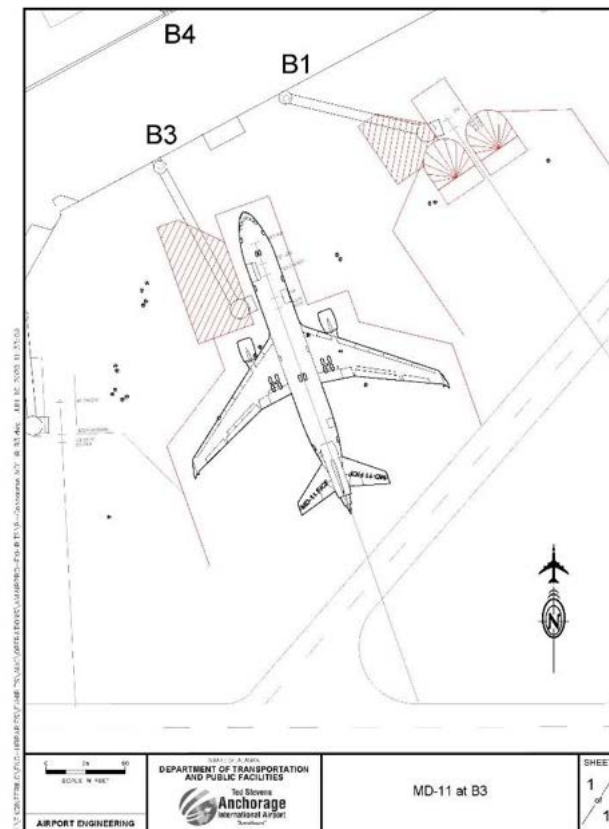

Figure 3
4.6 Gate B-3 Cargo Aircraft Parking (Figure 3)